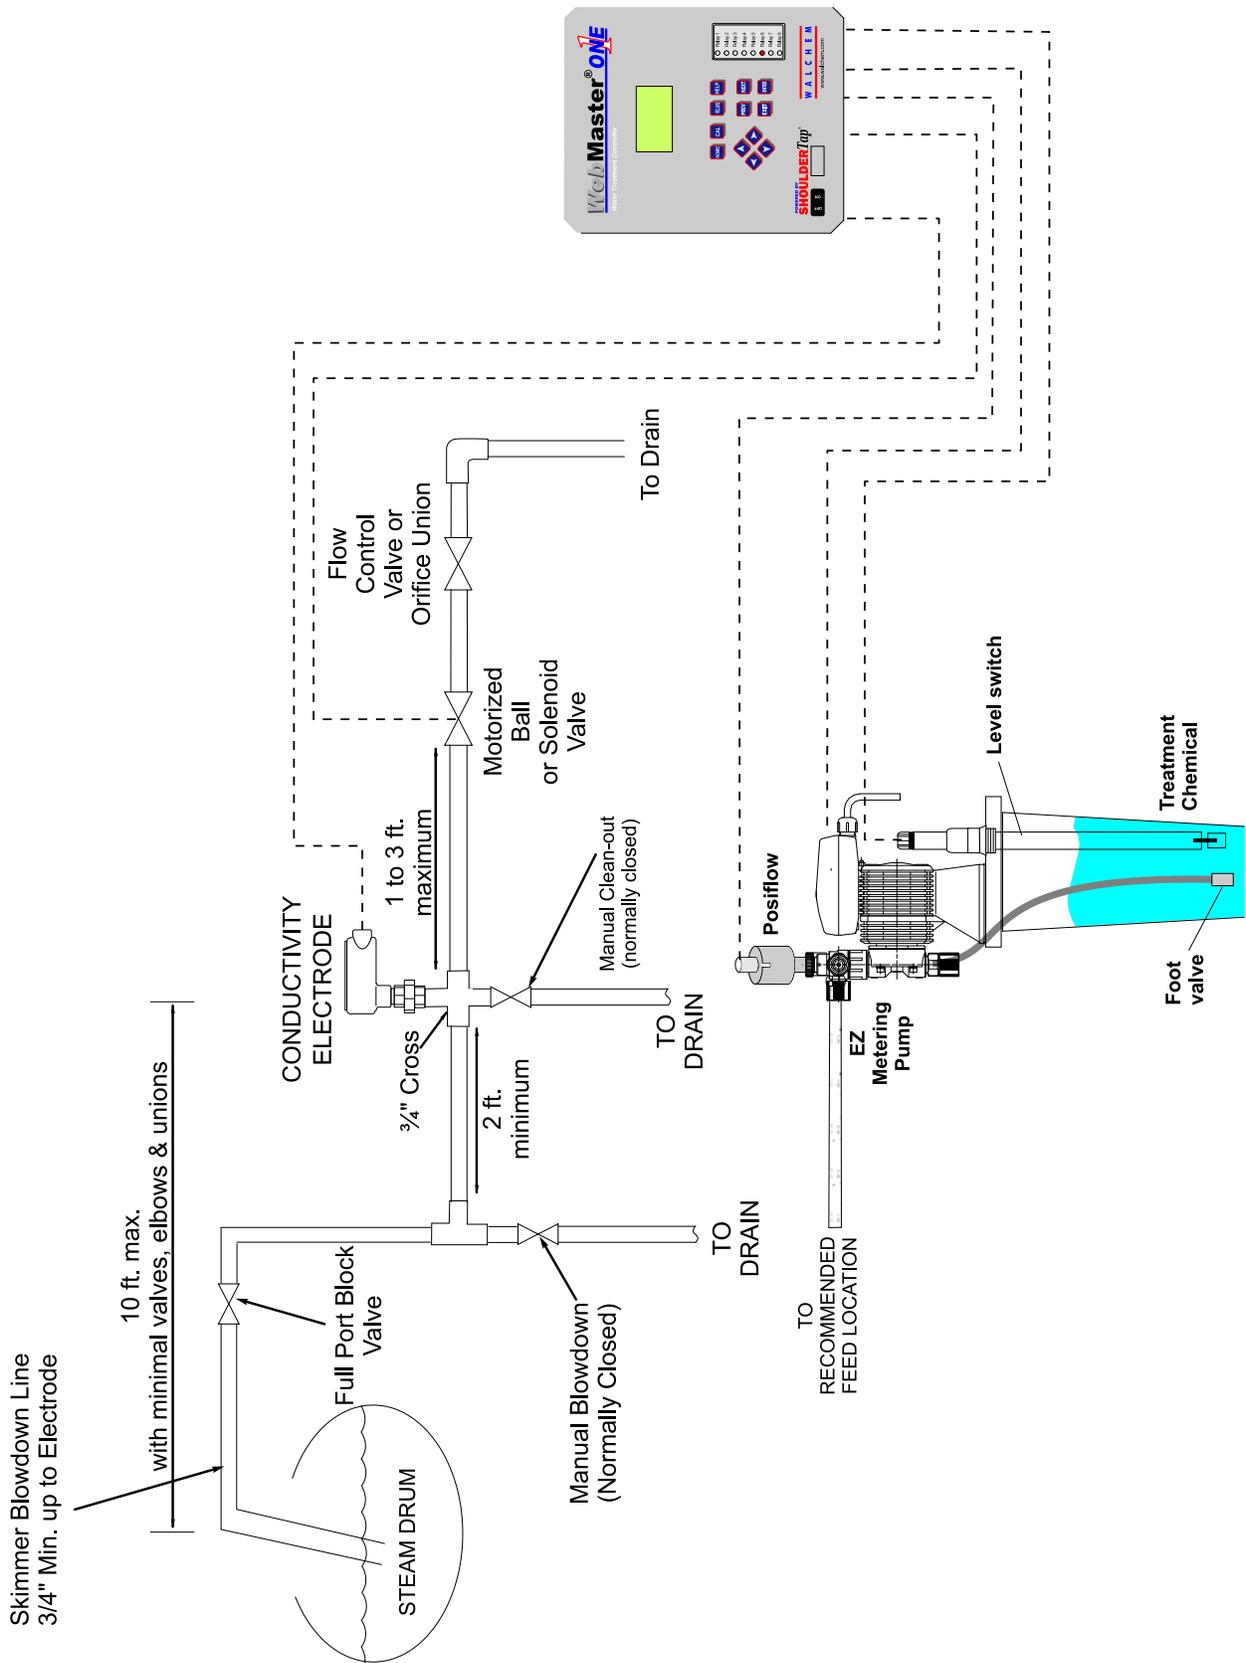

Figure 1b Typical Installation, Boiler Intermittent Sampling
***Important Boiler Installation Notes: (see figure 1b and c)***